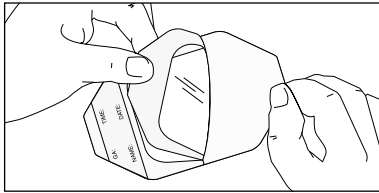

Fig. 1
2. Remove liner to expose adhesive (refer to Fig. 1).